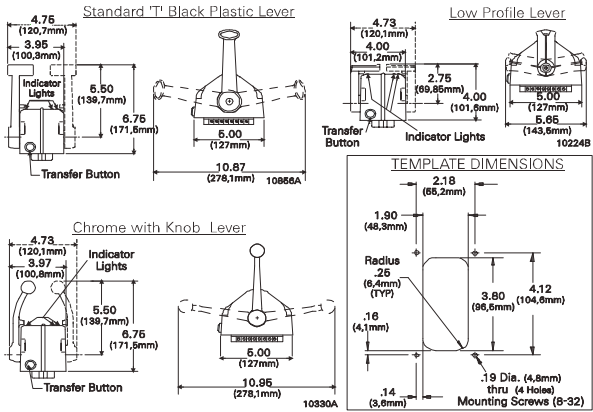

Figure MMC-280-3: Dimensions
- A Select the desired mounting locations and make cutouts per template. Refer to Figure MMC-280-3: Dimensions.